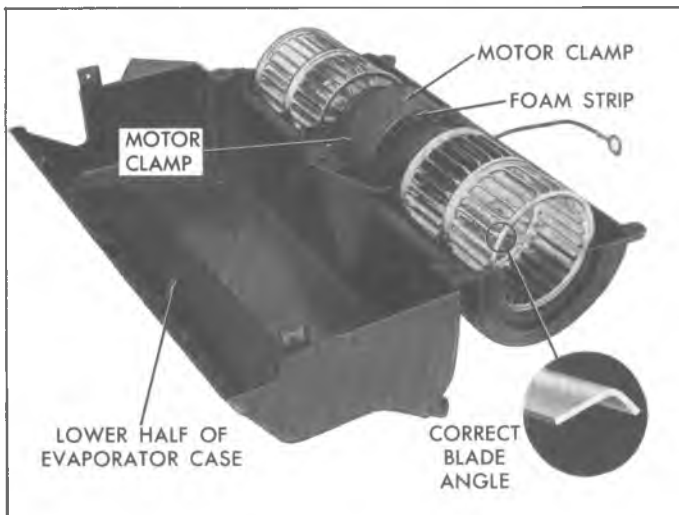

Fig. 74-Blower Motor (C-K Overhead System)
**CAUTION:** Be sure that the blower wheels are installed as shown in Figure 74.